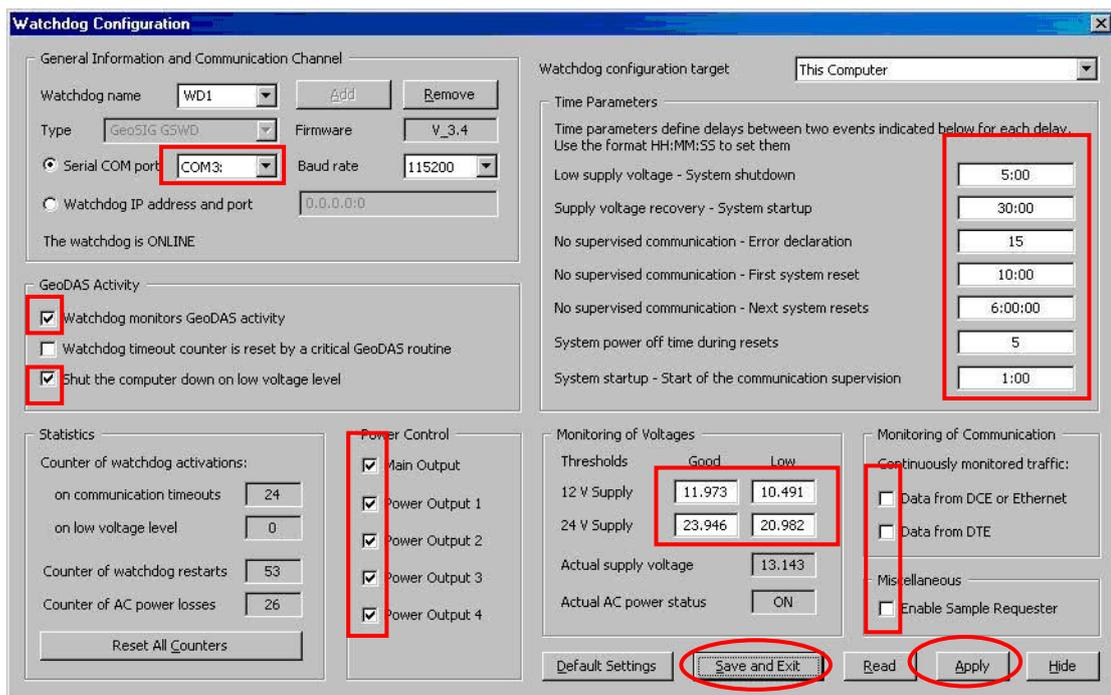

Figure 18: Watchdogs settings of the CR-6
- Change all values as seen in Figure 18. For explanations see chapter 6.2.2.1